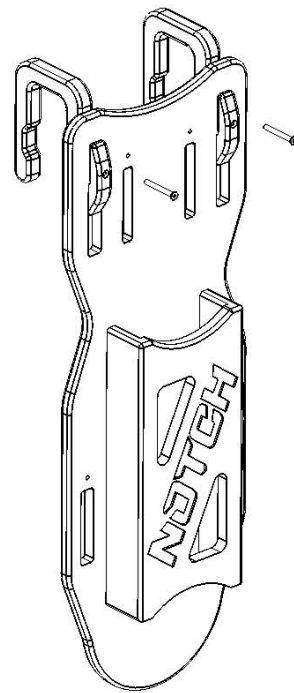

Figure 8
3. Attach outside bump stops (D) to the main frame (Figure 8)